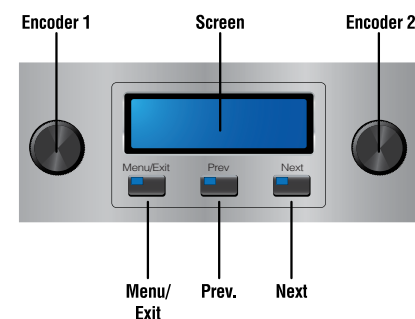

Figure 2.12
1. Be sure that no cables are connected to the amplifier. Turn on the front-panel power switch. The LCD Control Screen will light up (Figure 2.12).